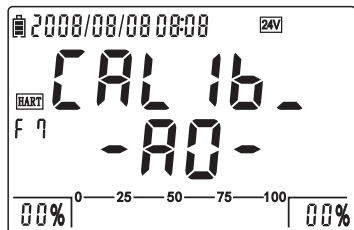

Figure 4-5-7-3: AO calibration entrance
c. After calibration, press to go to the figure 4-5-7-1.